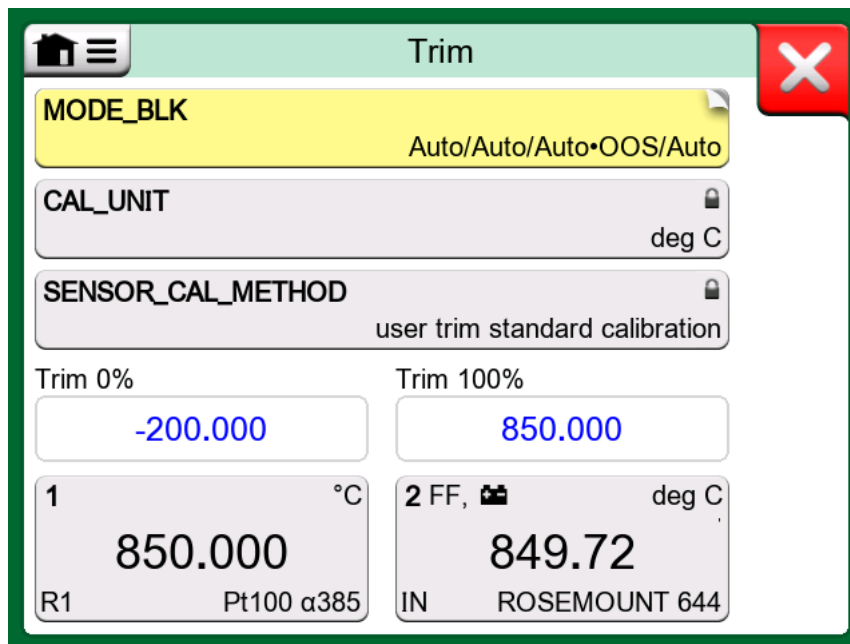

Figure 162: Fieldbus instrument Trim window example
The **Start Trimming** menu option opens a window similar to the Figure 162: Fieldbus instrument Trim window example. The list of Blocks and Parameters displayed depends on instrument's Device Description file. The lower part of the window will display channels showing the instrument's input (1) and output (2) readings.